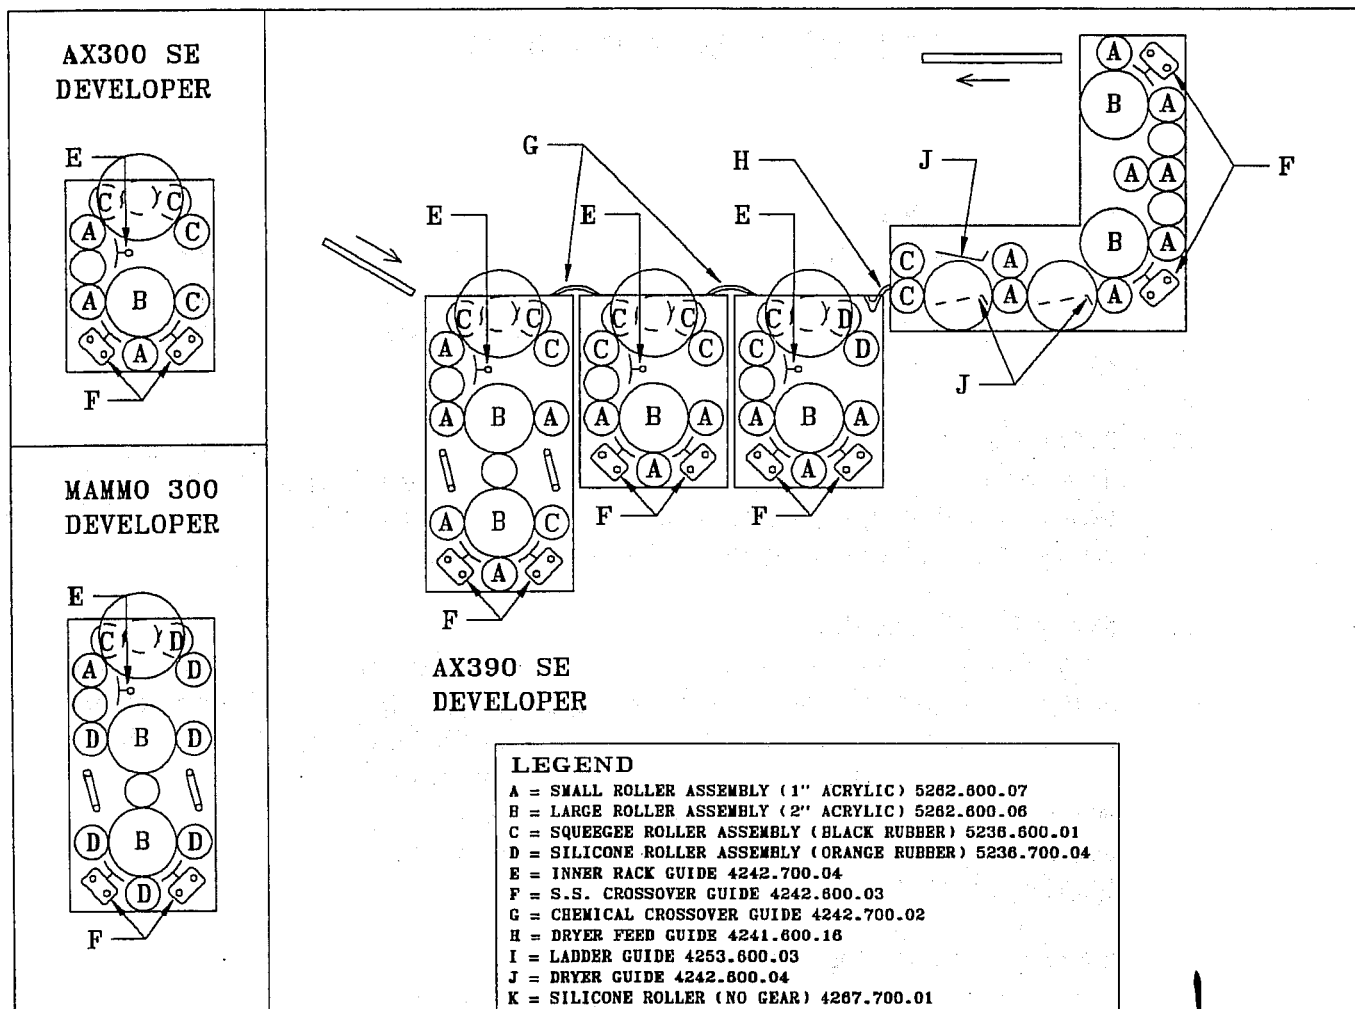

FIGURE 5-1
5.4 TRANSPORT RACKS (FIGURE 5-1)
Refer to Figure 5-1 for proper roller placement.